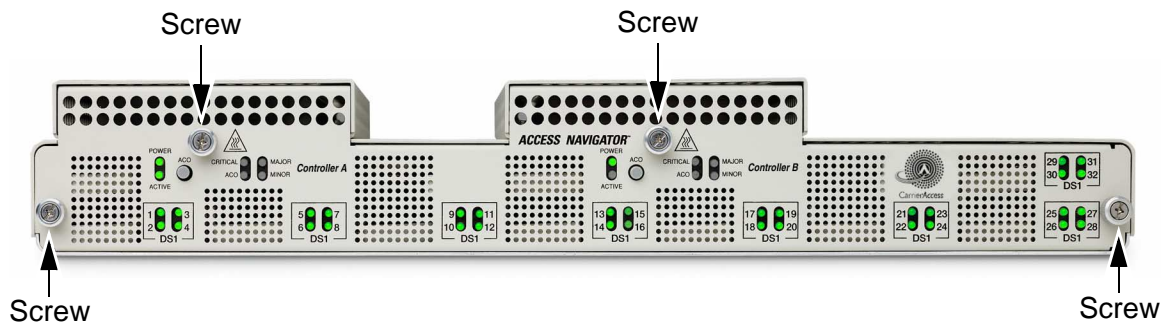

Figure 6-33. Location of Front Panel Cover Screws
2. Loosen captive thumbscrews on front cover (see Figure 6-33).